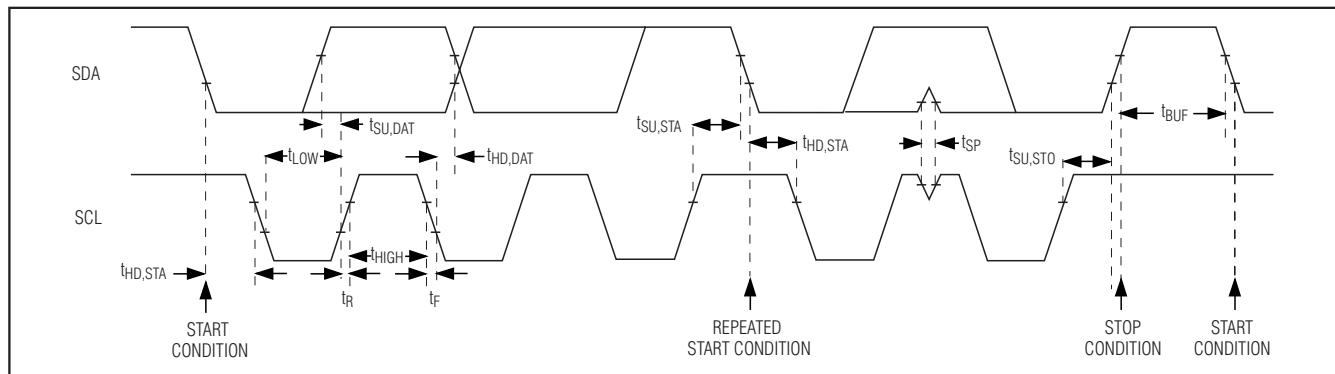

Figure 1. I²C Serial-Interface Timing Diagram
I²C TIMING CHARACTERISTICS (Figure 1)
The MAX9669 features an I²C/SMBus™-compatible, 2-wire serial interface consisting of a serial-data line (SDA) and a serial-clock line (SCL). SDA and SCL facilitate communication between the MAX9669 and the master at clock rates up to 400kHz. Figure 1 shows the 2-wire interface timing diagram. The master generates SCL and initiates data transfer on the bus. A master device writes data to the MAX9669 by transmitting the proper slave address followed by the register address and then the data word. Each transmit sequence is framed by a START (S) or REPEATED START (Sr) condition and a STOP (P) condition. Each byte is serially transmitted to the MAX9669 as 8 bits and is followed by an acknowledge clock pulse. A master reading data from the MAX9669 transmits the proper slave address followed by a series of nine SCL pulses. The MAX9669 transmits data on SDA in sync with the master-generated SCL pulses. The master acknowledges receipt of each byte of data. Each read sequence is framed by a START